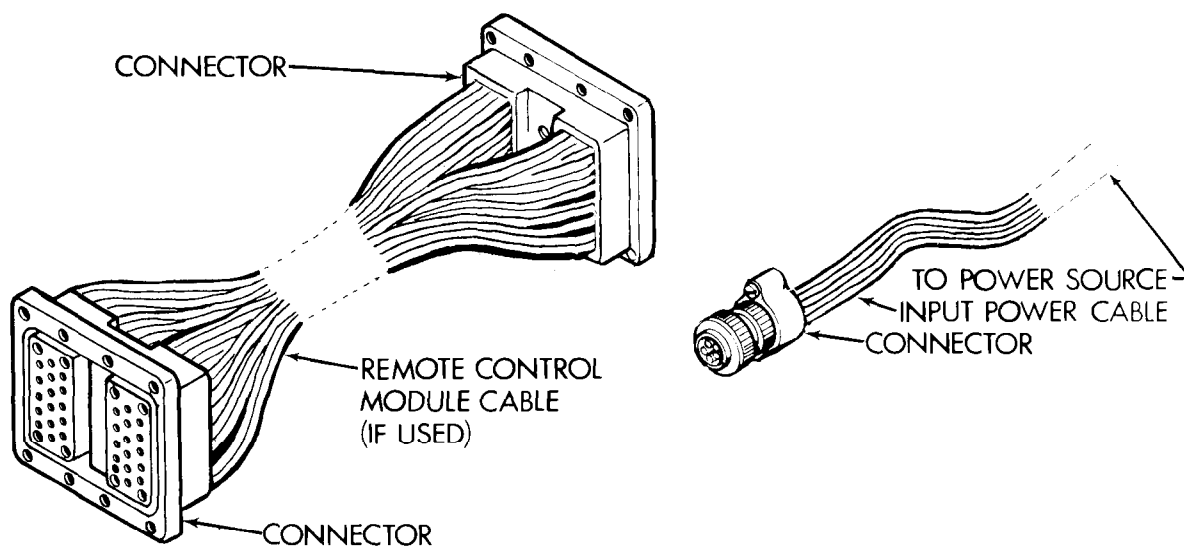

Figure 4-37. Connectors (Installation)
- a. There are three connectors supplied with each air conditioner. (See fig. 4-37.)
(1) Input power cable connector (P1). This connector is used at the unit end of the input power cable. It can be connected to the J1 receptacle located above the control module or the J11 receptacle located on the upper left rear corner of the unit.